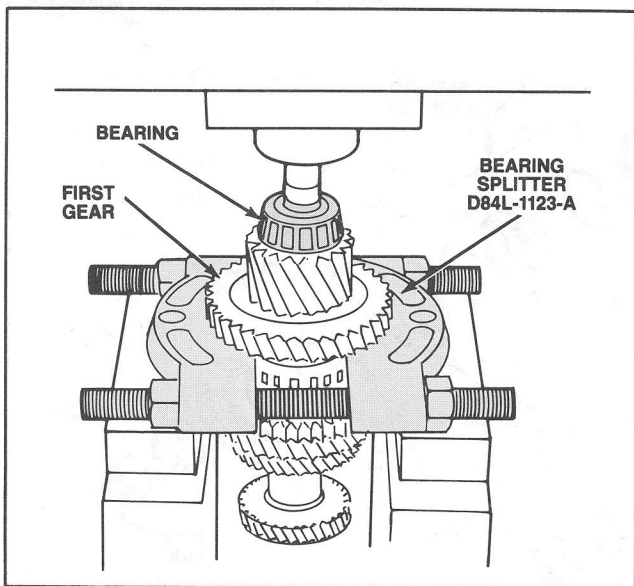

Figure 68 Output Gear/Bearing Removal
7. Remove the bearing from the output gear end of the shaft. (Figure 68).